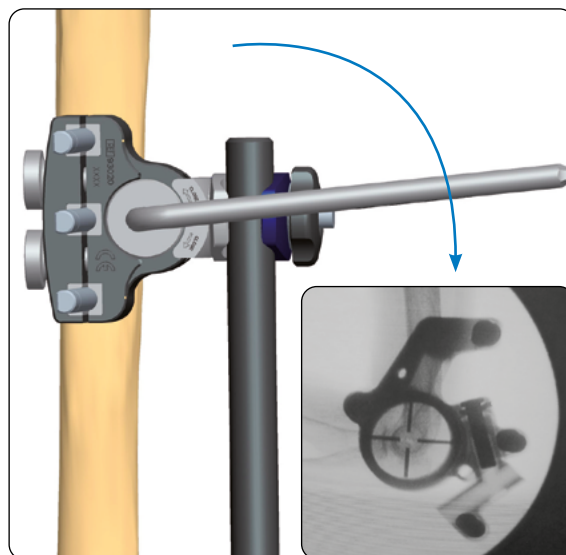

Fig. 10
7) Lock the Multi-Screw Clamp Central Nut and check Elbow Hinge alignment under image intensification. **(Fig. 10)**. The radiolucent central unit of the hinge has a built-in targeting cross that can be used to achieve a correct alignment, however it is advisable to use an additional 2mm k-wire (length approx. 10cm). Insert the k-wire through the hole in the center of the hinge unit and manipulate the central hinge unit until the k-wire projects as a dot in the center of the condyles.